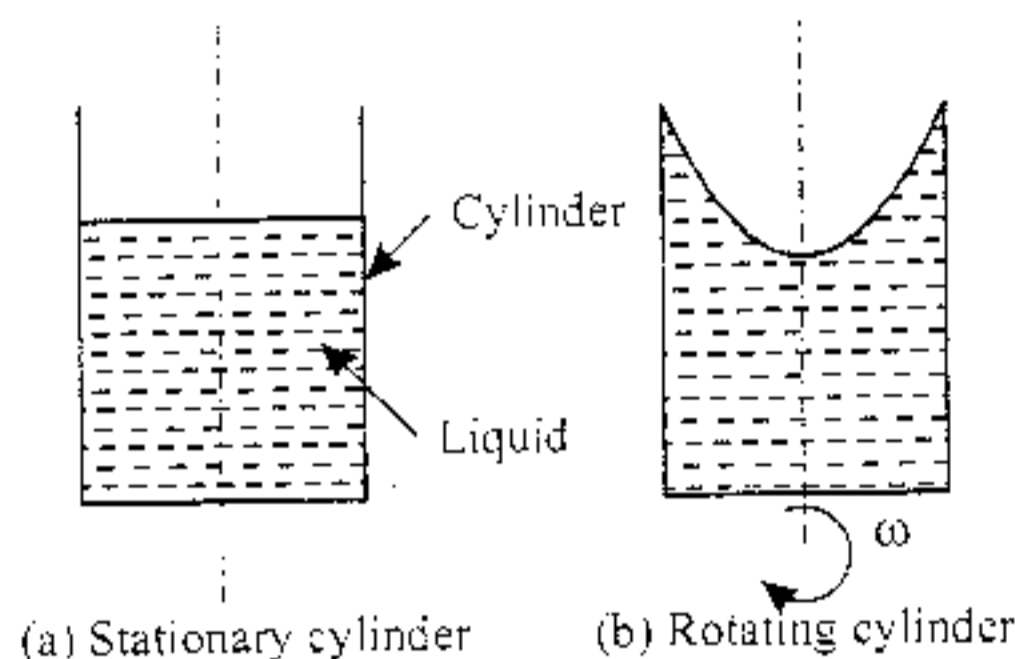

Fig. 6.64. Forced vortex flow.
3. Rotation of liquid in a vertical cylinder, (Fig. 6.64)